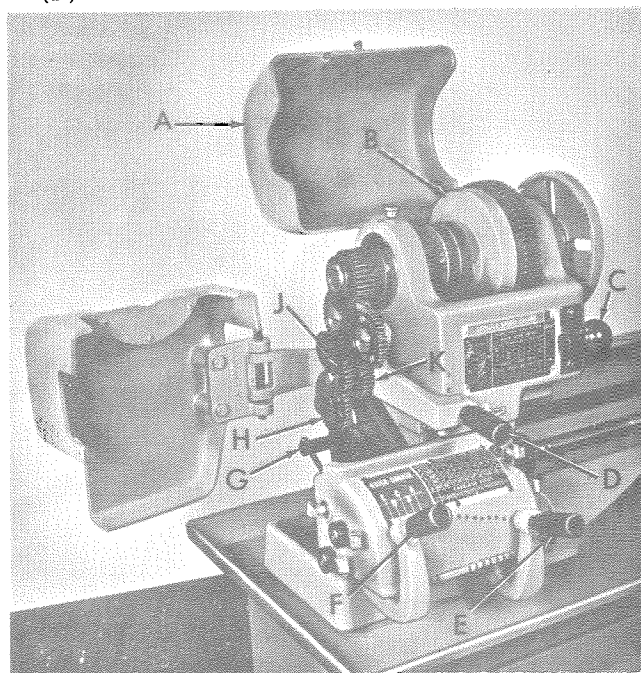

FIGURE 9
3. Move back gear lever (C, Fig. 9) to "IN" (engaged position) by pulling on knob, then pushing down and in. It may be necessary to rotate spindle pulley by hand so gears will mesh.
CAUTION: The position of the back gear lever (C, Fig. 9) should not be changed unless motor is "OFF" and spindle has stopped turning.
3. Move back gear lever (C, Fig. 9) to "OUT" (disengaged position) by pulling on knob, then pushing up and in.
LEAD SCREW DIRECTION LEVER (D, Fig. 9) has three positions. Center position is neutral -- gear train is disengaged and lead screw does not turn. Upper position moves carriage toward tailstock. Lower position moves carriage toward headstock.
The left LEVER (F, Fig. 9) on quick-change box shifts to five positions -- A, B, C, D and E.